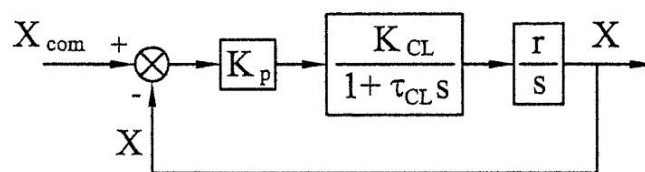

Fig Q3
- Figure Q3 shows a block diagram of a positional servomechanism. Given  $\tau_{CL} = 0.01$  sec,  $K_p = 100$  V/mm,  $K_{CL} = (\text{rad/sec/V}) = 5$ ,  $r = 0.2$  (mm/rad). [5]